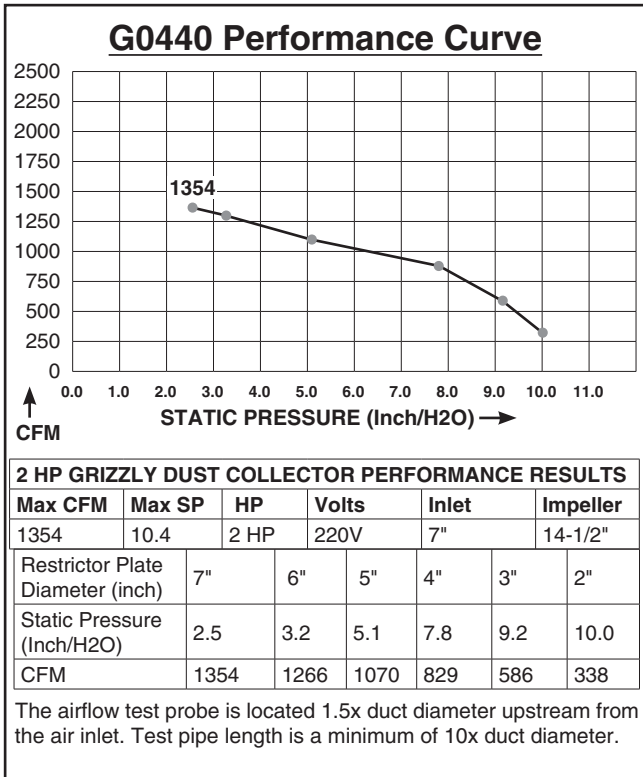

Figure 51. G0440 performance curve chart and data.
5. Compare the total static pressure loss for that line to the closest CFM given in **Figure 51** for your dust collector on **Page**.